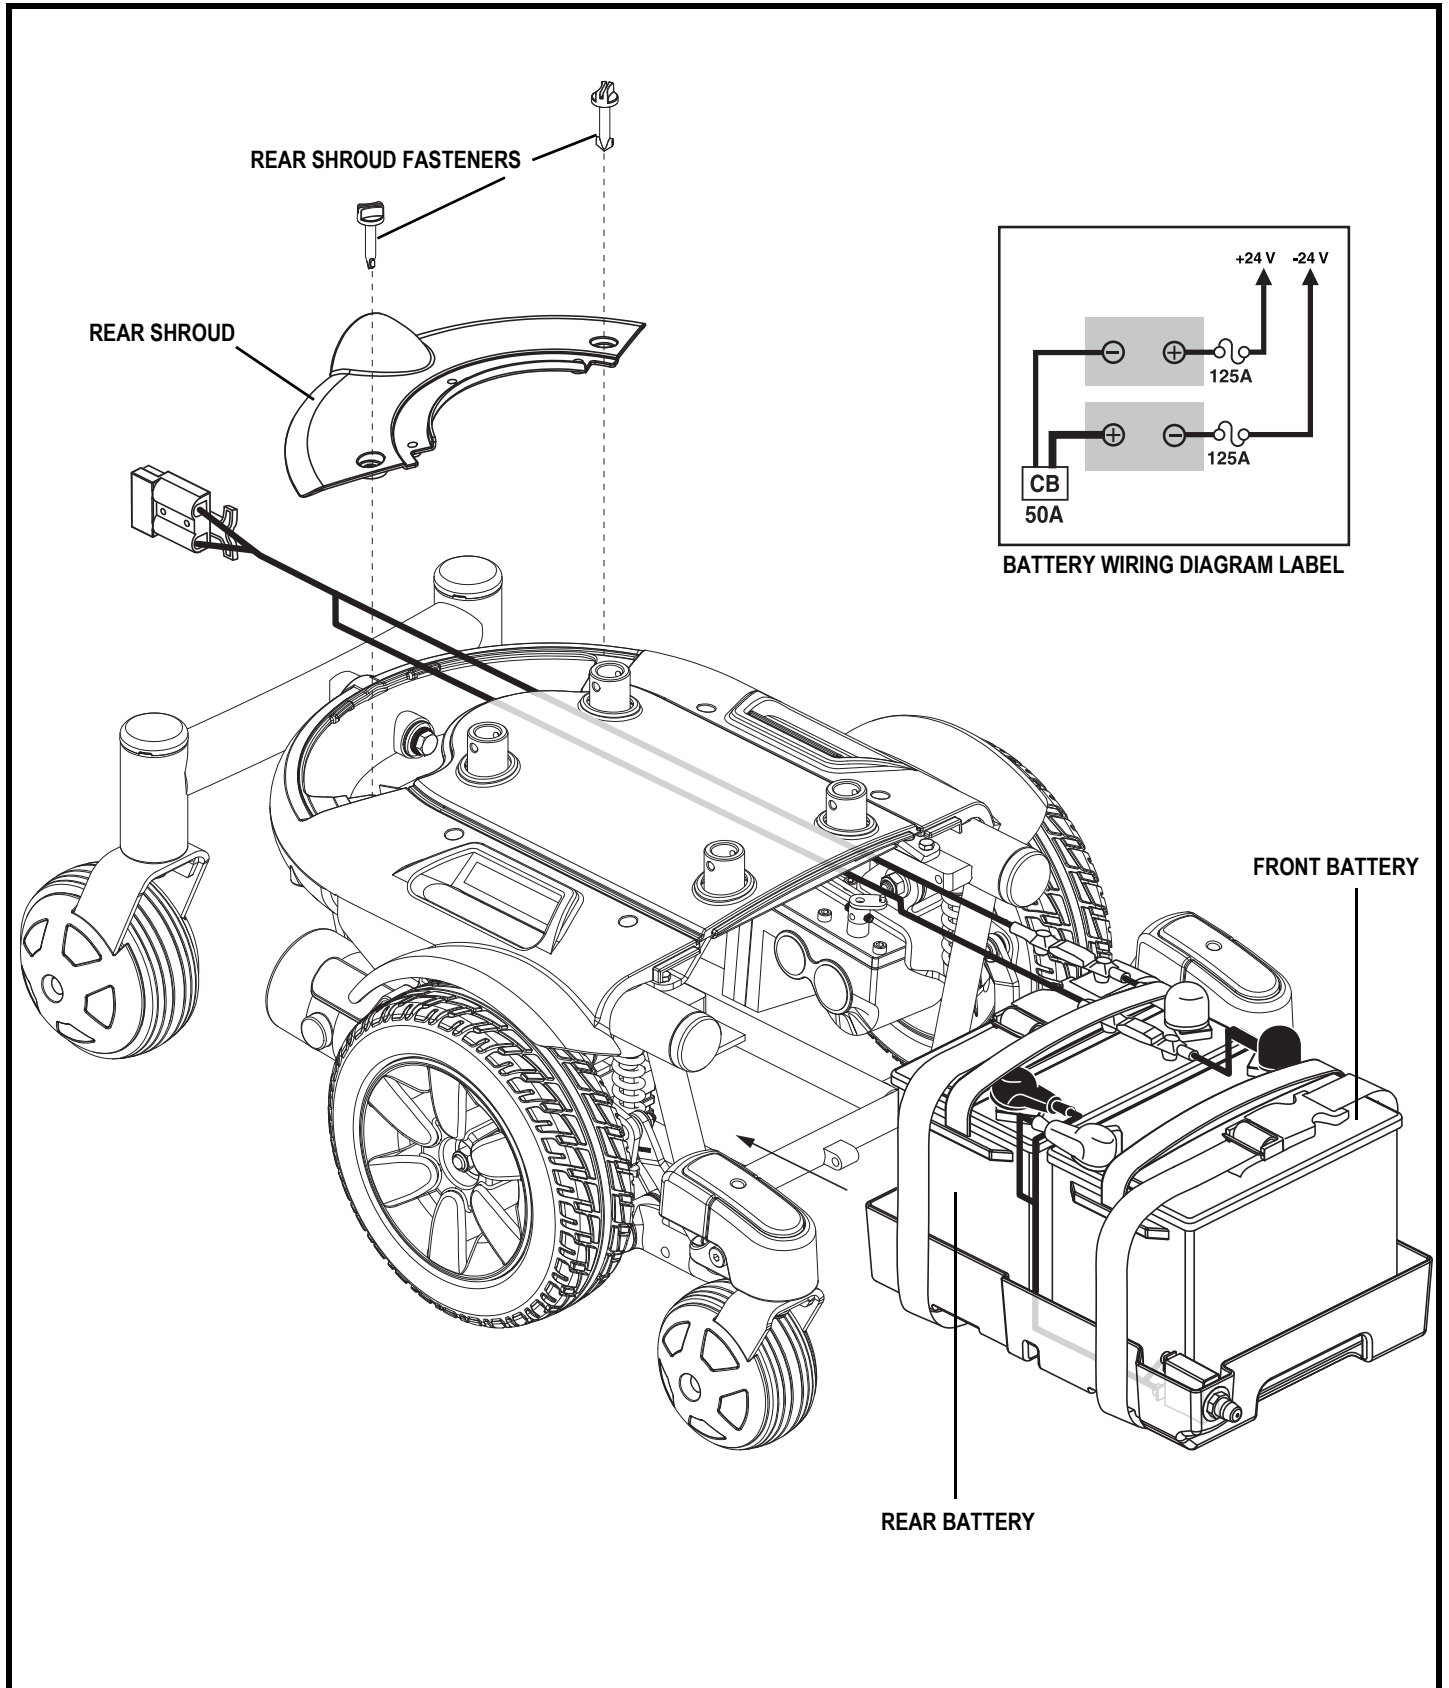

Figure 28. Battery Installation
4. Remove the rear shroud. **See figure 28.**
13. Connect the battery harness to the front battery according to the battery wiring diagram. **See figure 28.**